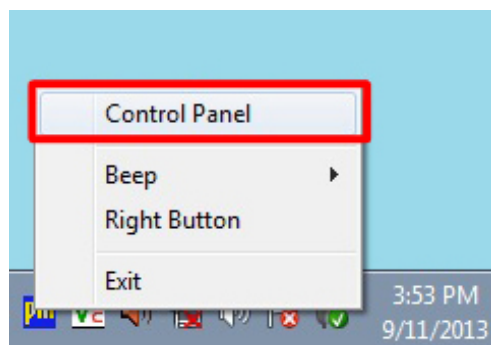

Figure 3-29: Select Control Panel
Step 2: Click **Control Panel** from the menu (Figure 3-29).